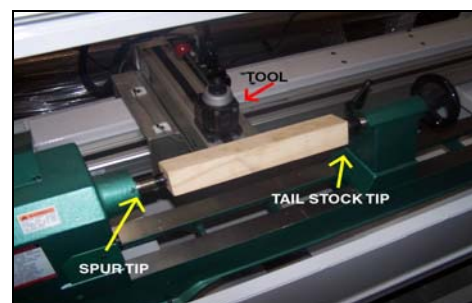

Figure 5.7
6. Loosen **Taper Lock Lever** and use the handle to tighten the grip on the wood. **Figure 5.7** is the work piece loaded in the Wood Lathe.